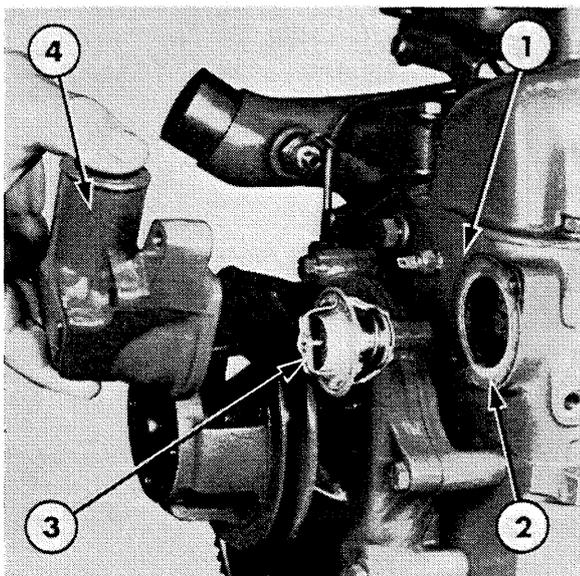

Figure 7
1. Remove the coolant outlet connection and the thermostat and gasket, Figure 7.